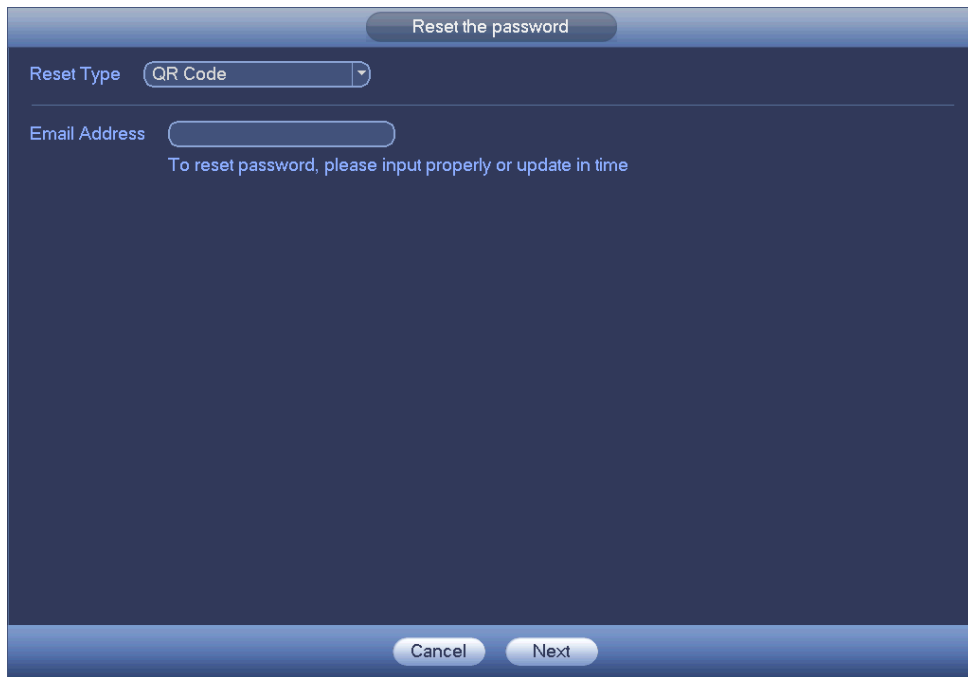

Figure 4-6
- If you have input email when you are initializing the device, device goes to Figure 4-6.